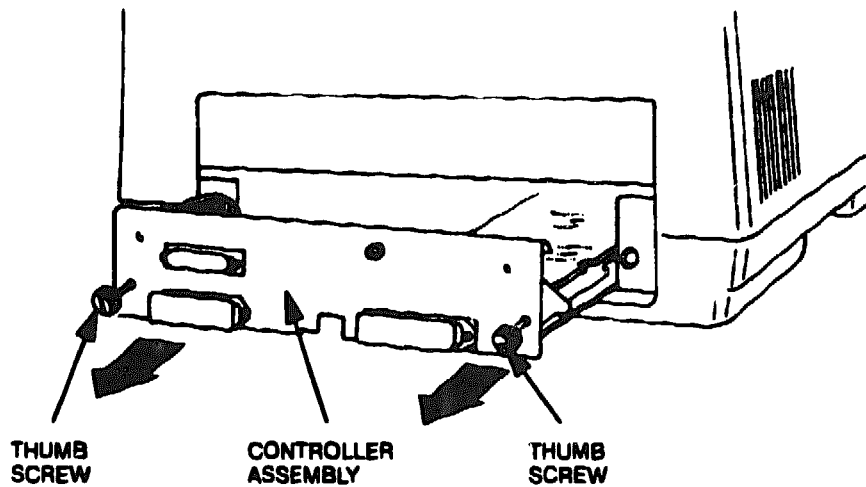

Figure 6-10 Controller Board Assembly Removal
2. Loosen the thumb screws that secure the controller assembly to the printer (see Figure 6-10).